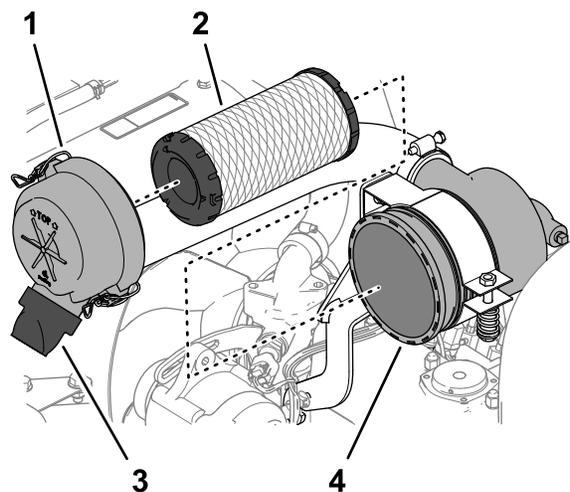

Figure 67
3. Release the latches that secure the air-cleaner cover to the air-cleaner body (Figure 67).
6. Remove the filter element (Figure 67).
7. Remove the rubber outlet valve (Figure 67) from the dirt ejection port of the air-cleaner cover.